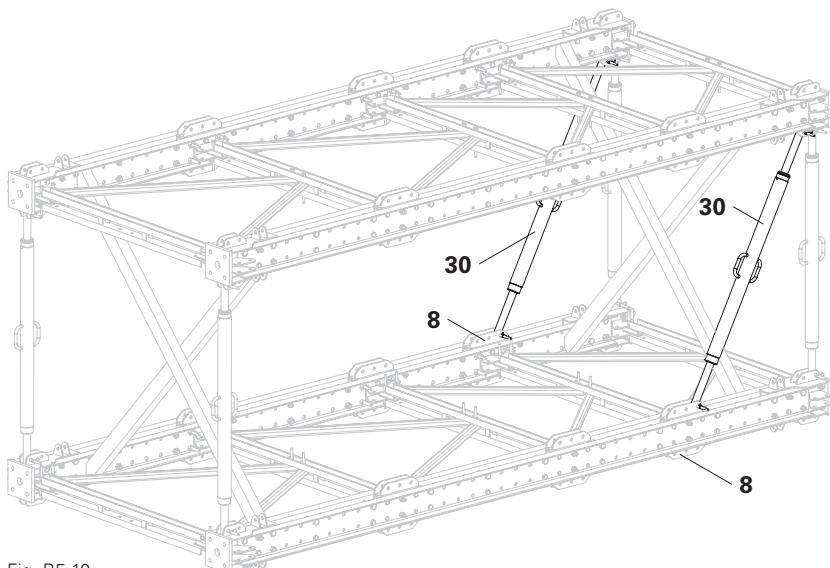

Fig. B5.10
2. Connect the heavy-duty spindle SLS (**30**) to the bracing connector VST (**8**) and prop base VST 48 (**17**) by means of 1x fitting pin Ø 21 mm (**9**) each. (Fig. B5.10)